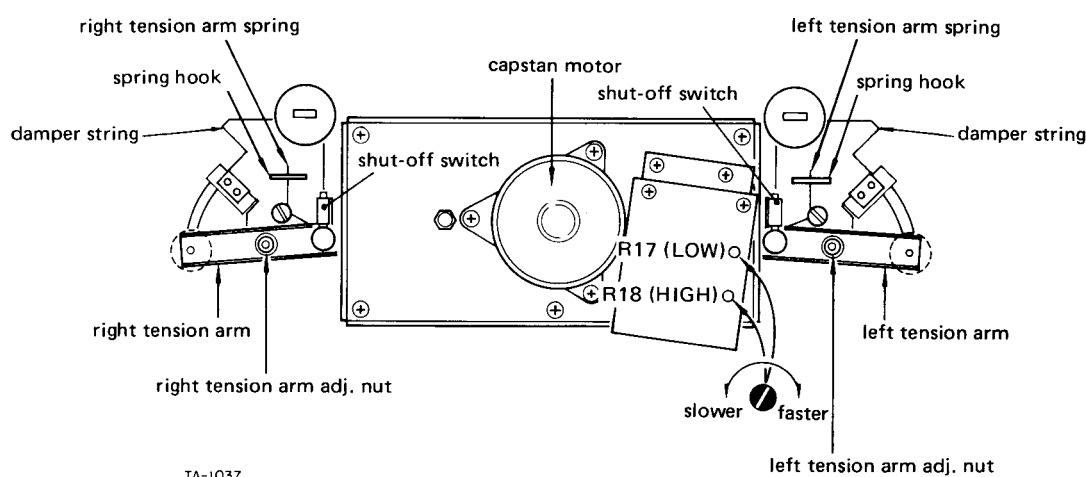

Fig. 2-8 Tension arm height, tension arm force, damper function, and tape speed
3. Stop left (right) guide roller's rotation by hand. Adjust by turning the left (right) tension arm adjusting nut (refer Fig. 2-8) so that the tape moves in the center of the guide roller.
3. Play the tape. Adjust R18 (see Fig. 2-8) for a reading of 3,000 Hz $\pm$ 5 Hz.